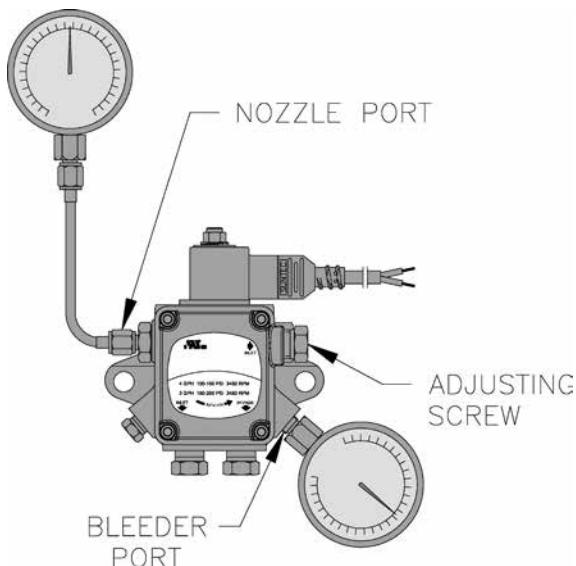

Figure 25: Adjusting Fuel Pump Pressure
- a. When checking a fuel unit's operating pressure, a reliable pressure gauge may be installed in either the bleeder port or the nozzle port. See Figure 25.